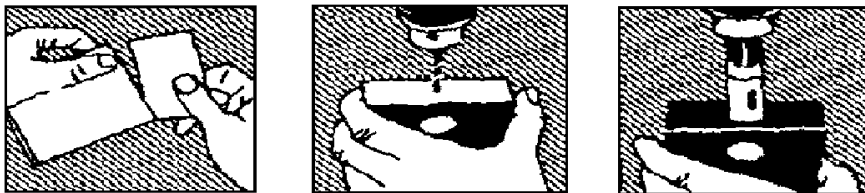

fig. 1
**Surface:** A choice of plastic and metal mounting boxes is available. The PLASTIC mounting box (SR/3T) when supplied with the call point has included as part of the packing box a tear off template which can be used for locating the cable entry holes (See Fig.1). The METAL mounting box has 4x20mm2 cable entries, 1 drilled into one face and 3 drilled into the opposite face. Each of the entries are fitted with a moulded blanking plug.